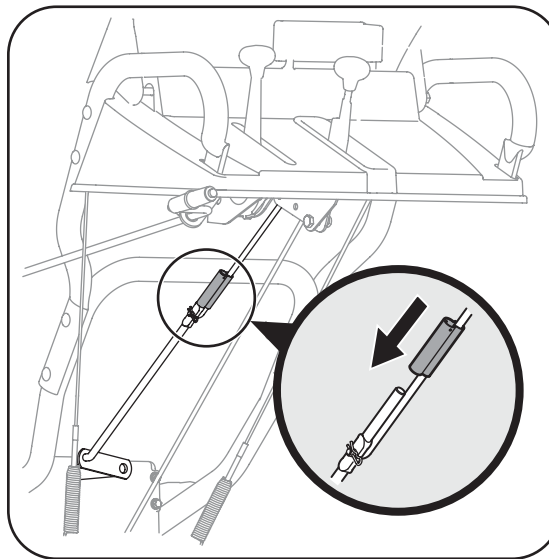

Figure 3-6
- Align the upper and lower shift rods, then slide the shift rod connector down over the end of the lower shift rod. Tap the connector until the lower rod is completely through the connector. See Figure 3-6.